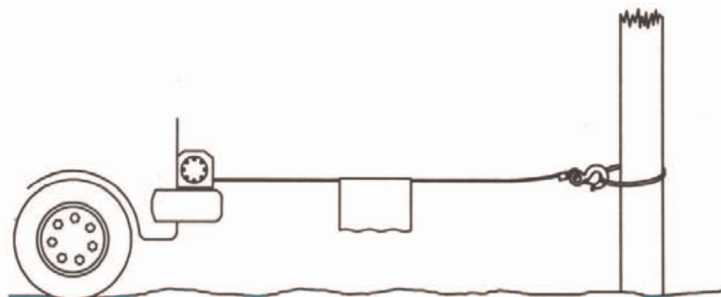

Figure 5
2. When pulling a load, place a blanket, jacket or tarpaulin over the wire rope near the hook end (see Fig.5). This will slow the snap back of a broken wire rope and help to prevent serious injury. Raise hood to protect windshield.